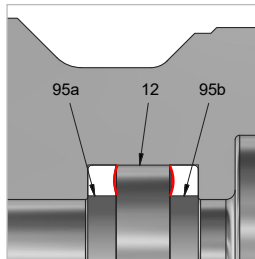

Figure 13
- ▶ Insert Pos. 95b into the recess of Pos. 12) with the WEH® O-ring picker part no. 101969 (Figure 11 to Figure 13).
Note: Note the installation position (Figure 13).